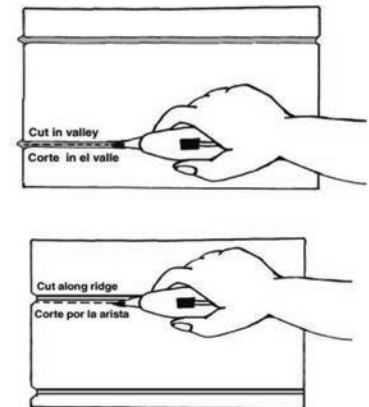

Fig. 3
- E. Install the root barriers 1-2" above the grade to prevent root penetration above the barrier. (When adjacent to concrete, top of root barrier Must be at least 1/2" above Grade) Prepare your installation as shown in the illustrations. (Assemble barrier as shown in fig. 3)